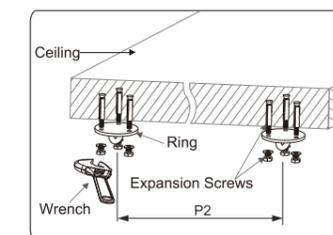

Figure 2
2. Fix the rings (not accessories) on the ceiling according to the distance P2 between two hanging pieces of brake mechanism (note: make sure each of rings can endure at least 200Kg to avoid falling down) (figure 2).